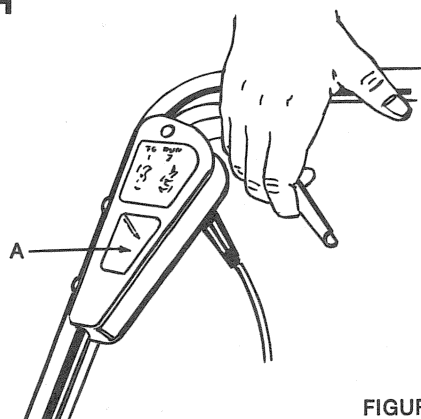

FIGURE 6
Your mower is equipped with a special switch. To operate the switch, insert your finger into the opening (A) in Figure 6 and push the lever out so that you can grab it with your right hand. Pull the lever back to turn the unit on and hold it against the mower handle to keep it running. To turn the mower off, just release the lever. The spring loaded "SNAP ACTION" lever will quickly activate the stopping mechanism.